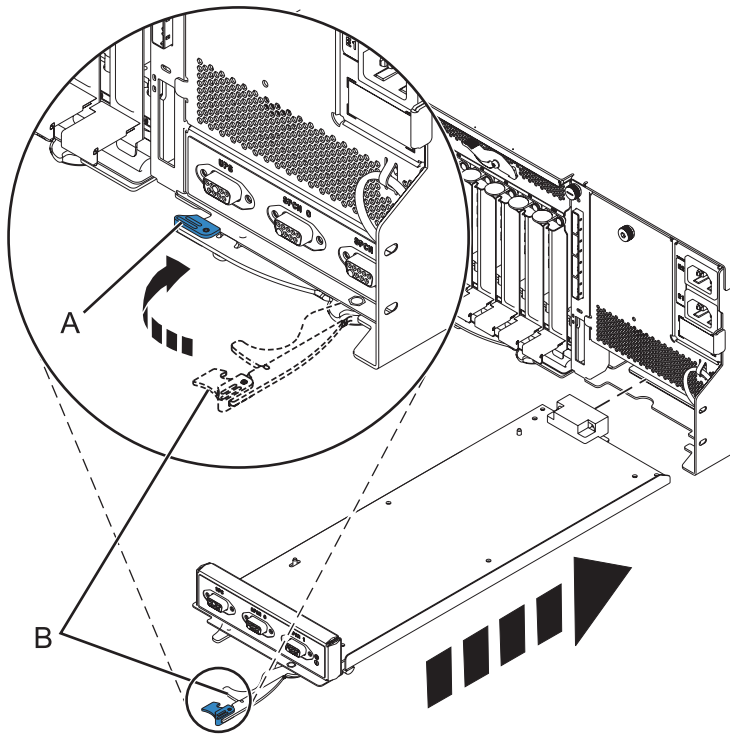

Figure 57. Replacing the enclosure management controller
- Carefully slide the enclosure management controller into the system and close the latch (A) as shown in Figure 57.